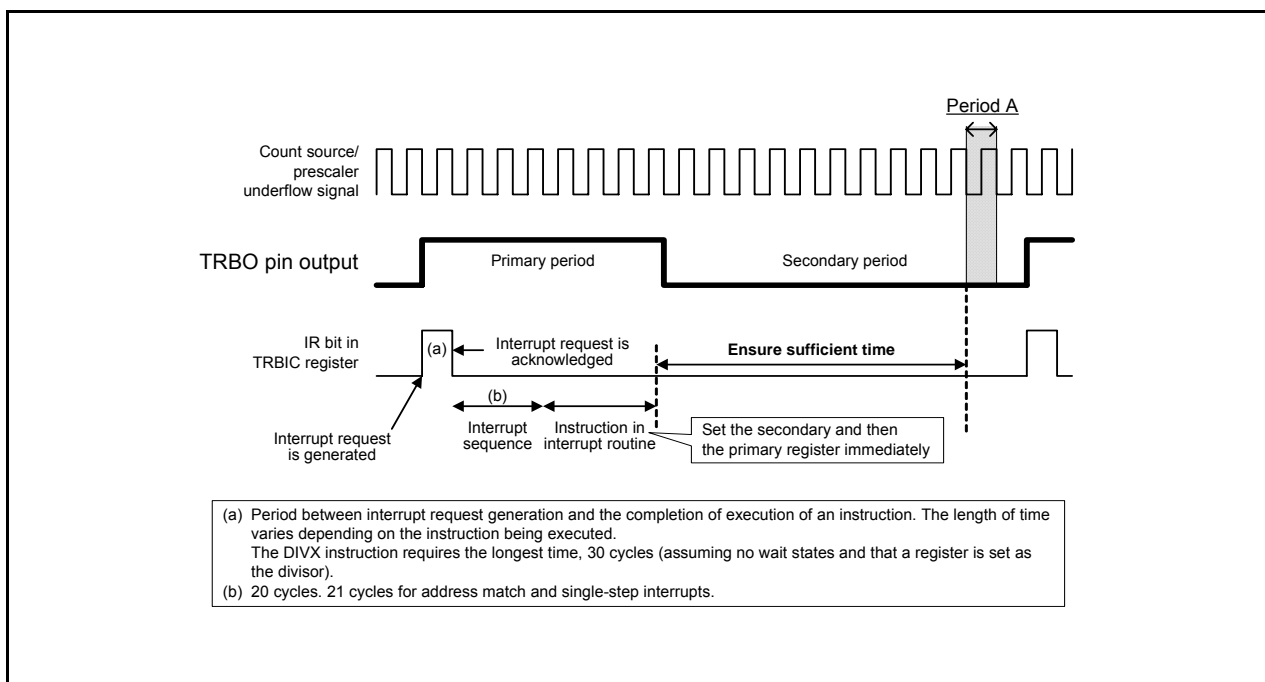

Figure 22.2 Workaround Example (a) When Timer RB interrupt is Used
- (1) To write to registers TRBPRES and TRBPR during count operation (TCSTF bit is set to 1), note the following points:
- (2) To change registers TRBPRES and TRBPR during count operation (TCSTF bit is set to 1), synchronize the TRBO output cycle using a timer RB interrupt, etc. This operation should be performed only once in the same output cycle. Also, make sure that writing to the TRBPR register does not occur during period A shown in Figures 22.2 and 22.3.
As shown in Figure 22.2, write to registers TRBSC and TRBPR in the timer RB interrupt routine. These write operations must be completed by the beginning of period A.